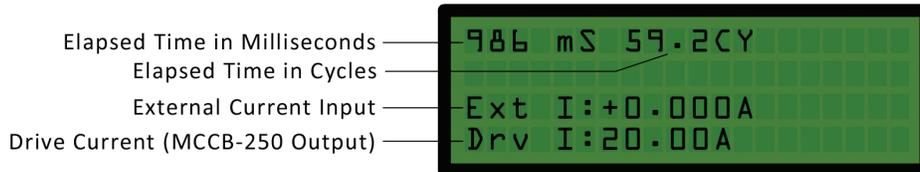

Figure 2. Typical MCCB-250 Test Results Screen
The MCCB-250's built-in time/cycle counter can be used to time events in milliseconds and cycles. The elapsed time is displayed on the LCD screen along with the test current after a test is completed. A typical test results screen is shown in Figure 2. The timer is turned on when the ON+TMR mode is selected.
The MCCB-250's **[EXT CURRENT]** input serves as a built-in ampere meter that can be used to monitor an AC current. This current is isolated, and the maximum input current is 10 amperes. A typical application for this feature is to measure a current transformer (CT) current ratio. The MCCB-250 can be used to output a current to the CT primary input. The CT secondary output is then connected to the MCCB-250's **[EXT CURRENT]** input. Both the MCCB-250 output current and the CT secondary current are displayed on the LCD screen (see Figure 2). The user can use the displayed values to quickly calculate the CT current ratio manually.